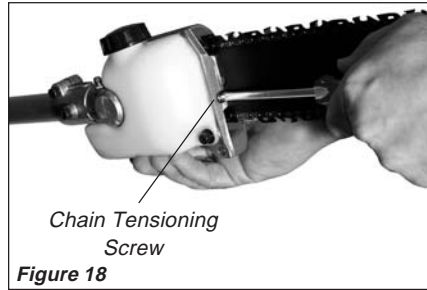

Figure 18
3. Lift the nose of the guide bar while turning the chain tensioning screw. See Figure 18.